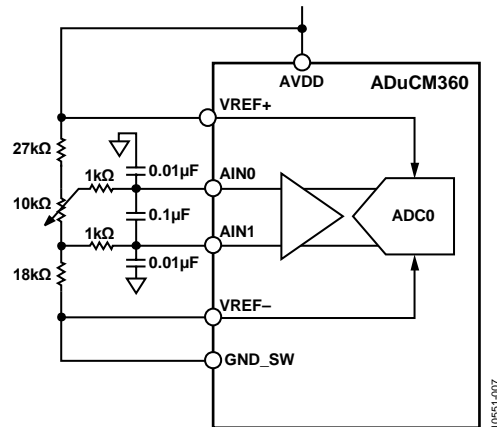

Figure 7. Primary Input Signal Generated by a Set of Resistors
- A second test was performed with the primary input signal generated by a set of fixed and variable resistors, as shown in Figure 7.